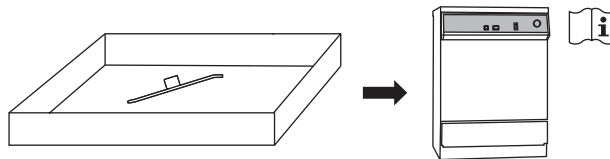

Fig. 26
- 2 Place the Irrigation Nozzle in the cleaning basket and set the cleaning basket in the washer-disinfector (Fig. 26).